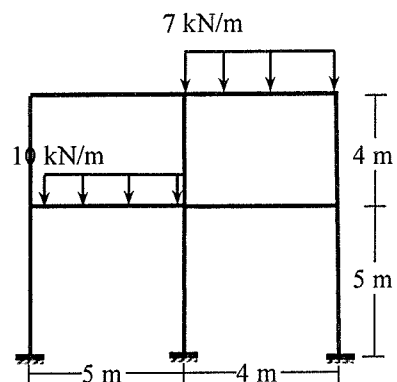

Fig.9
9. Analyze the frame shown in Fig.9 to draw the bending moment diagram using Vertical Load (Approximate) Method and of the frame. [05]